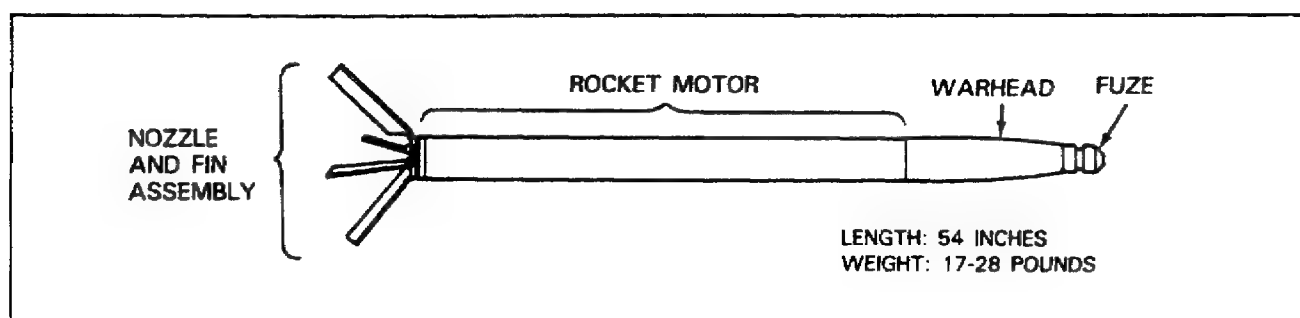

Figure 44. Typical 2.75-Inch Aircraft Rocket.
**2.75-Inch Aircraft Rocket.** The 2.75-inch low-spin, folding-fin aircraft rocket (LSFFAR)(Figure 44) is an air-to-ground rocket fired from helicopters or other low-speed aircraft.